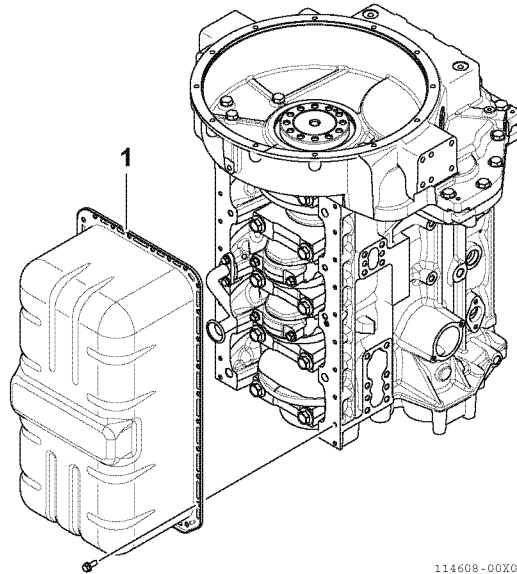

Fig.03-4
1. After completing the procedure in 0100-02-01-01 "Disassembling the Engine", invert the cylinder block with the fan side facing down, and remove the oil pan (1, Fig.03-4).